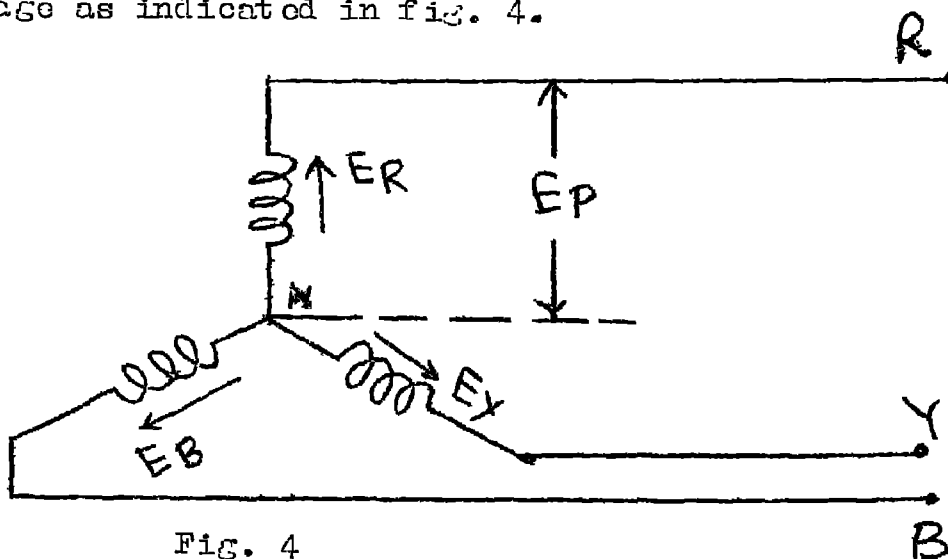
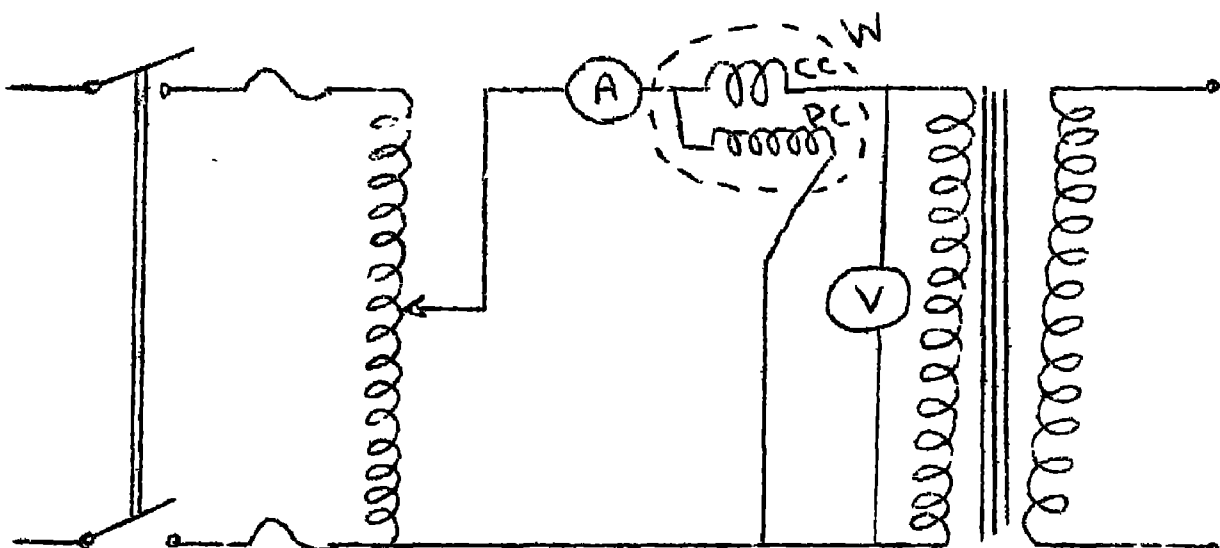

Fig. 4
Fig.2 (Connection for S.C. test)
The common point in star connection, at which either the starting or the finishing ends are joined together, is called neutral or star point. The voltage between any line and neutral point i.e., voltage across the phase winding is known as the phase voltage while the voltage between any two lines is known as the line voltage as indicated in fig. 4.
CORE TYPE: In this type the iron core surrounds the windings as shown in fig. 2(a) and 2(b).
Various types of laminations and stampings are shown in fig. 4, 5 & 6. In fig. 4(a) and 4(b), two L shaped laminations are shown indicating their mode of placement in the alternate layers. They are placed together to give rectangular formation of core. The complete laminated core consists of rectangular laminations placed alternately one over the other as shown in fig 4(c), so that the joints are staggered. The joints are staggered to avoid continuous air gap which increases the magnetising current. Further, if the joints are not staggered the core will have less mechanical strength and during operation there would be an undue humming noise.
Diagrams showing details of the core are given in fig.4,5 and 6. Fig.2(a) and 2(b) show the constructional details of core type transformer and fig.3(a), and 3(b) give the details of shell type transformer.
12. Assemble the core with winding as shown in fig.2 & 3.
- i) Connect as shown in fig. 2